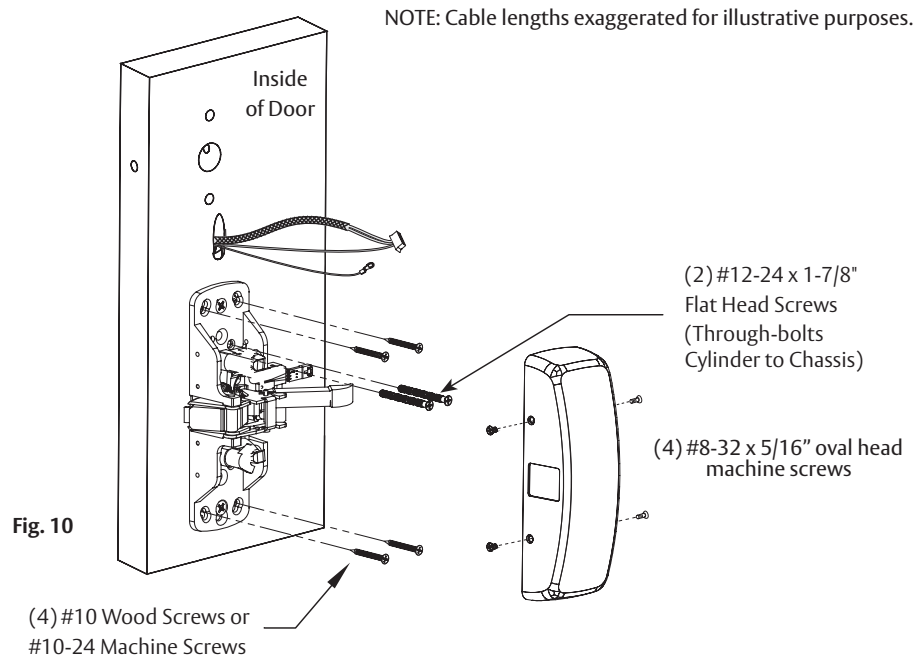

Fig. 10
- b. Secure cylinder by through-bolting cylinder through exit chassis using two (2) #12-24 x 1-7/8" connecting screws. (Figure 10)
Fasten exit chassis to door using four (4) #10 wood screws (for wood door) or four (4) #10-24 machine screws (for metal door). (Figure 10)
7. Secure chassis cover to chassis using four (4) #8-32 x 5/16" oval head machine screws. (Figure 10)